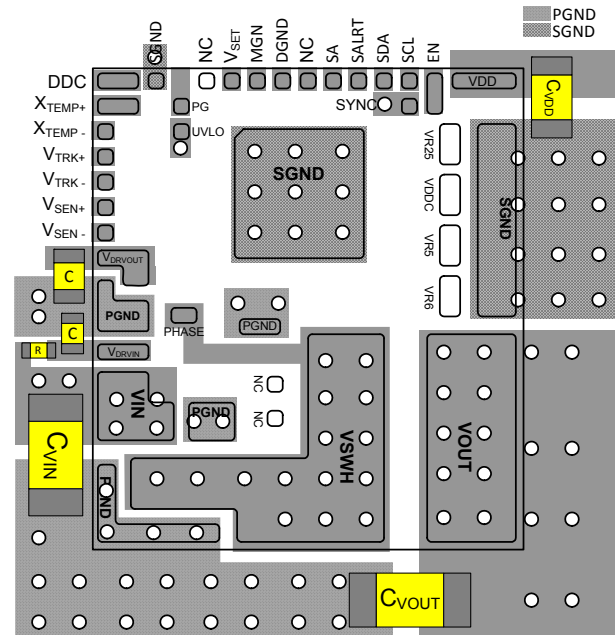

FIGURE 28. RECOMMENDED LAYOUT - TOP PCB LAYER
- For $VDD > 6V$ recommended PCB layout is shown in Figure 28. Leave V25, VDDC, VR5, and VR6 as no connect.